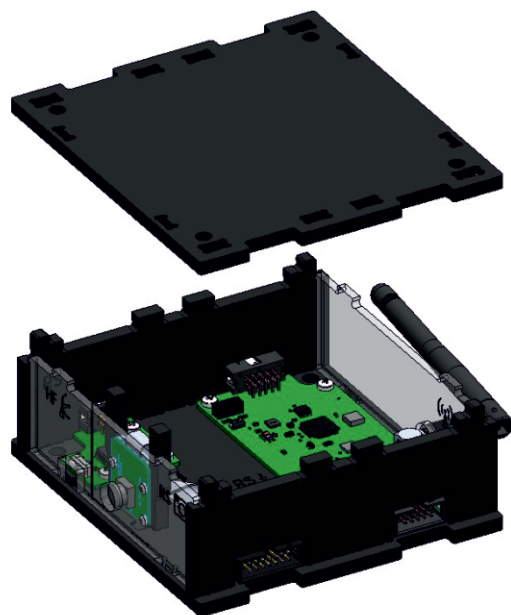

Fig. 31: Installing the top cover
8) Attach the top cover (marked as “ERS↑”) to the assembled housing. To do that, align holes in the top cover with protrusions of two side walls and two panels and latch them by applying some force (Fig. 31):